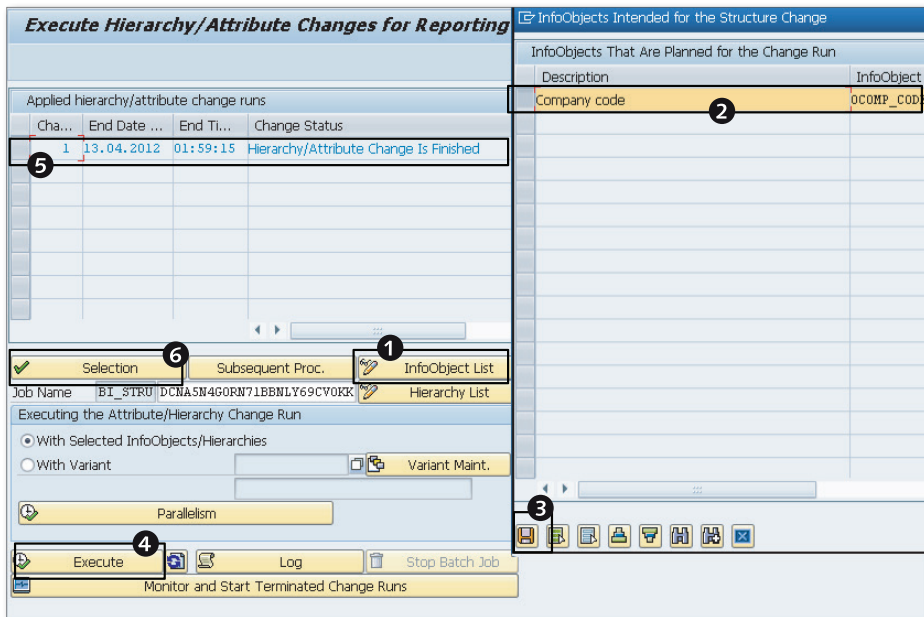

Figure 3.12 Manually Executing the Attribute Change Run Process
When you create a new record in the master data table, no action is necessary for the changes to become effective. But any changes to an existing record require that you run the apply hierarchy/attribute change process, as follows and as illustrated in Figure 3.12.
3. In the **EXECUTE HIERARCHY/ATTRIBUTE CHANGES FOR REPORTING** window, click on **INFOOBJECT LIST** to identify the characteristic InfoObjects that have undergone a change since the last change run (Figure 3.12, ❶).
4. Select the InfoObjects for which the changes to data should apply, and click on **SAVE** (Figure 3.12, ❷ and ❸). InfoObjects that are displayed here but are not selected for the change run will not reflect the latest changes made to the data when reporting.
6. Click on the EXECUTE button (Figure 3.12, 4).
7. Click on the REFRESH button to confirm that the changes have been activated. The CHANGE STATUS is displayed at the top of the table (Figure 3.12, 5).
You can schedule the apply hierarchy/attribute change process from this location to run at selected times. You can also schedule it based on an event by clicking on the SELECTION button (Figure 3.12, 6) in the EXECUTE HIERARCHY/ATTRIBUTE CHANGES FOR REPORTING window and then making the appropriate selections.